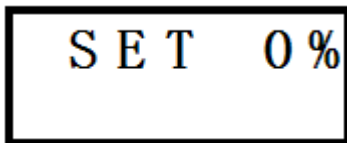

Figure27
5.1 Start and browse the menu and then select "Set 0%" menu item, as shown in Figure 27;
5.9 Enter "Confirm" once to clear the message and return to menu, the screen will display as shown in Figure 27;